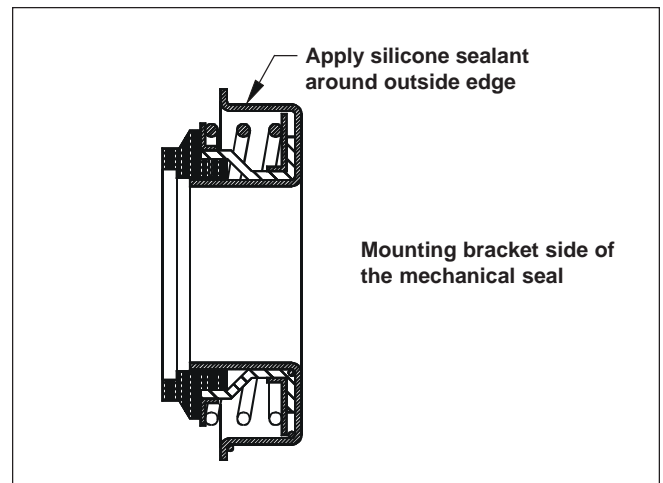

Figure 7. Mechanical Seal Replacement
8. Apply new silicone sealant to the perimeter of the new seal and press it into the mounting bracket by hand (See Fig. 7).